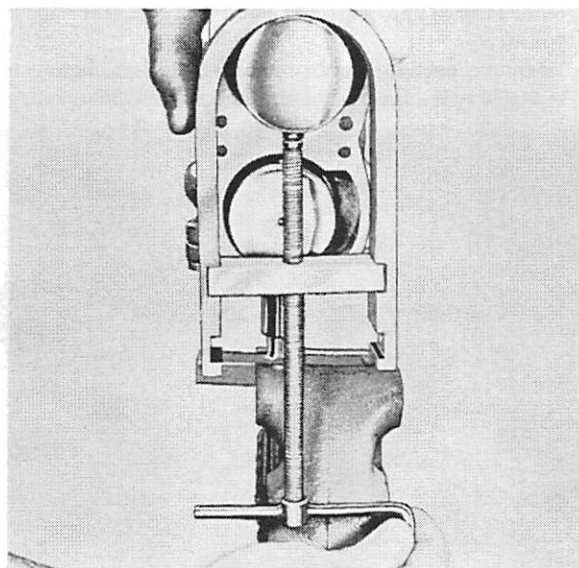

Figure 3. Removing Piston Pin
4. With lock rings removed, piston pin can be pressed out. Place Piston Pin Tool (91-30425A1) over piston and tighten "T" handle screw on open end of piston pin. Check that tool bar is in upper groove and that "C's" are lined up when removing piston pin and that bar is in lower groove (nearest open end) to install. Continue to turn down on handle of screw until pin emerges on opposite side of piston (Figure 3)